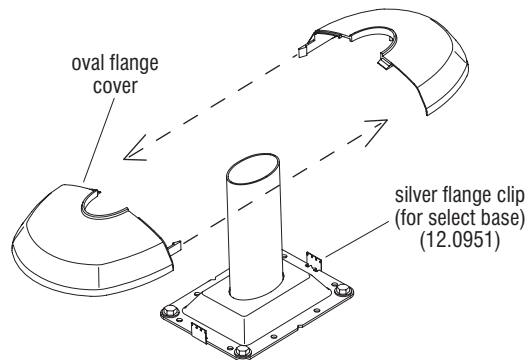

Figure 5 - Select Base
9. Single Pedestal oval flange covers fit around the upright as illustrated. Snap the flange covers together and push down to the floor to engage the pre-installed flange clips (Figure 5).